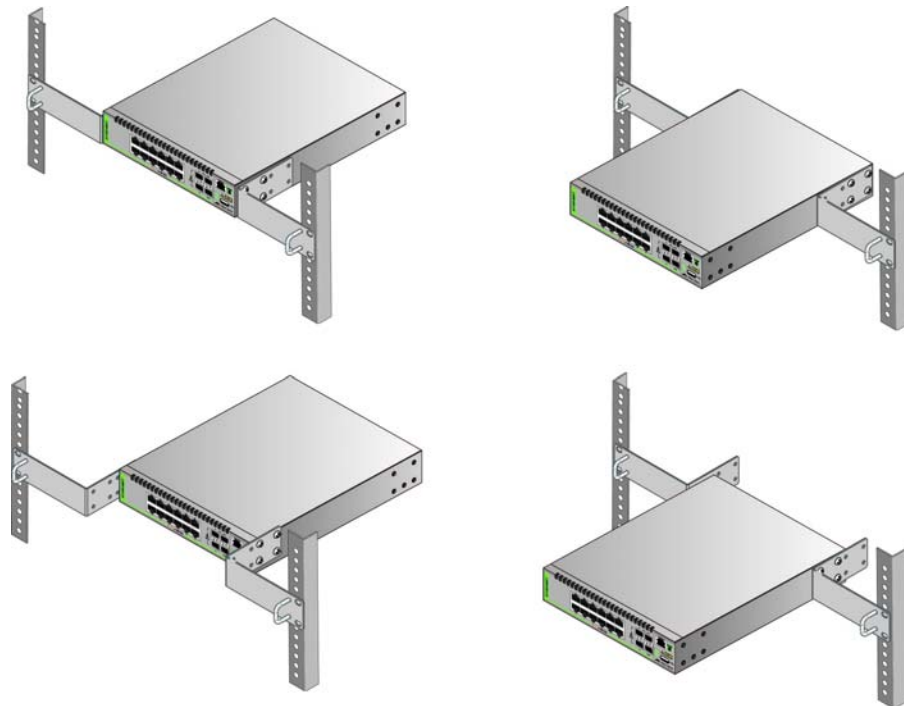
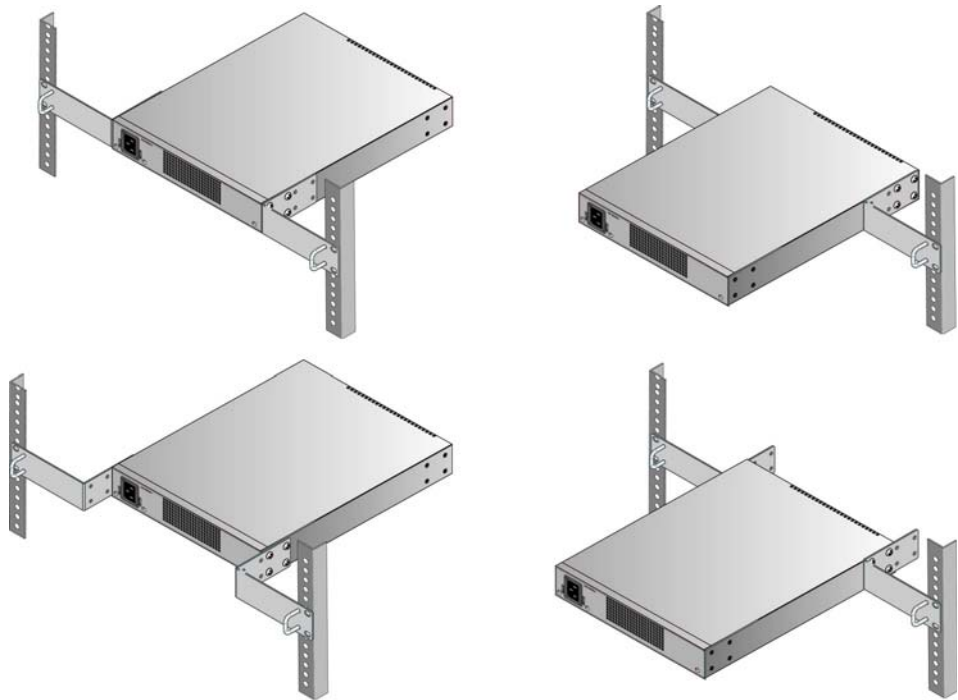
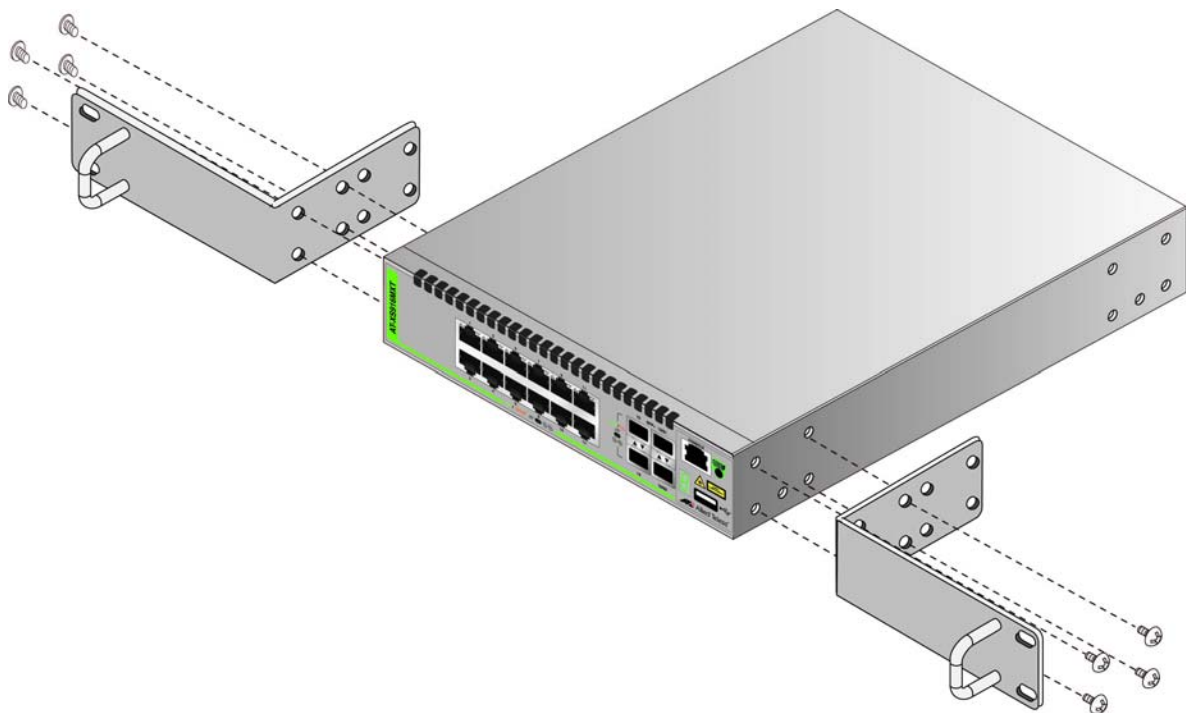

Figure 18. Switch Orientations with the Front Panel Facing the Front of the Equipment Rack
Figure 19. Switch Orientations with the Rear Panel Facing the Front of the Equipment Rack
Figure 21. Attaching the AT-RKMT-J14 Brackets to the Switch
You can use the different sets of holes on the switch and brackets to install the switch in different orientations in the equipment rack . You can install it with the front panel flush with, extending in front of, or recessed behind the front of the equipment rack. The illustrations in Figure 18 show the switch orientations with the front panel facing the front of the equipment rack.
You can also orient the switch with the rear panel facing the front of the equipment rack. Refer to Figure 19.
3. Attach the two brackets to the sides of the switch in the selected position, using the eight M4x6mm screws included with the unit. (Refer to Figure 18 on page 46 and Figure 19 on page 47.) The illustration in Figure 21 shows the installation of the brackets such that the front panel of the switch is even with the front of the equipment rack.